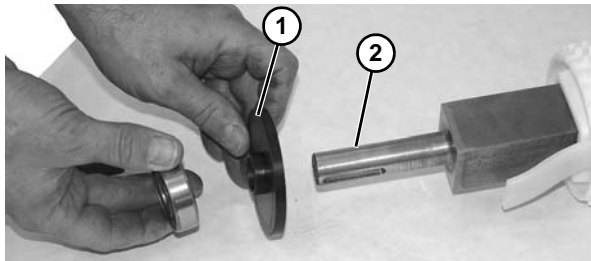

Figure 71
13. Remove washer (**Figure 71, item 1**), as shown, making note of flange area (**Figure 71, item 2**) of washer. Repeat on opposite side, if needed.